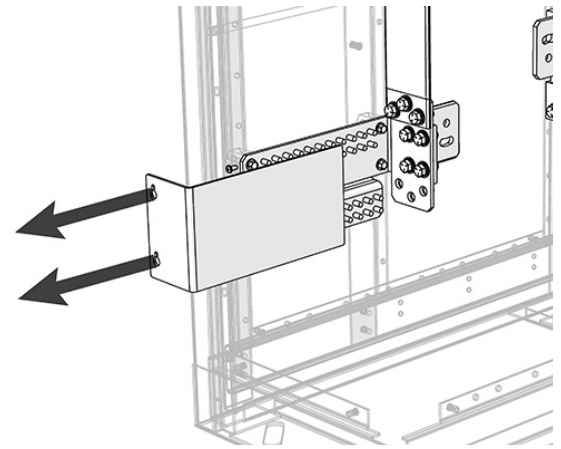

Figure 16. RTN Output Bus Plastic Cover
- Step 1.** Remove the return output bus plastic safety covers (see Figure 16).